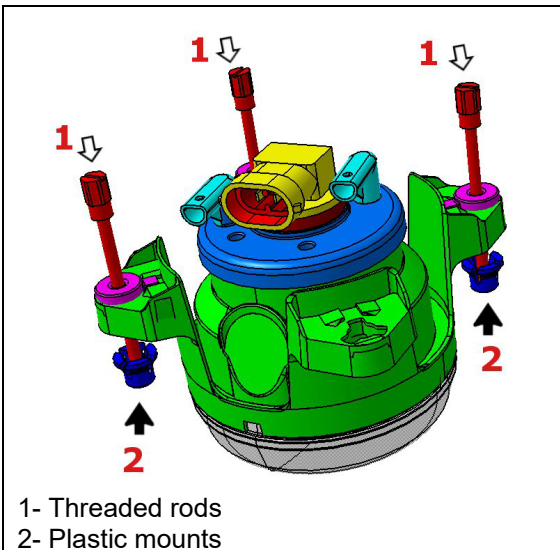
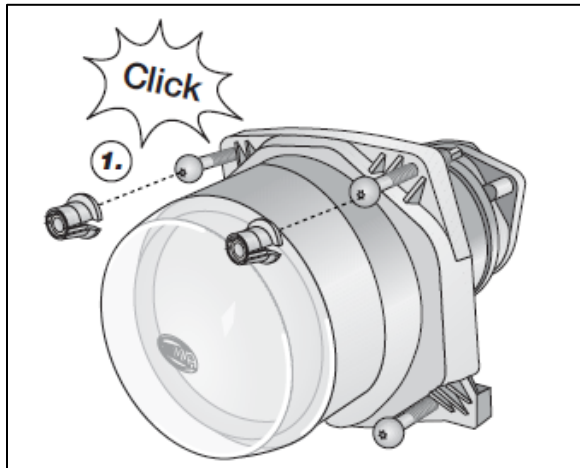

FIGURE 80: HEADLAMP MODULE
FIGURE 84
5. Install three new threaded rods (item 1, Figure 80) on the new headlamp module.
7. Snap new plastic mounts on threaded rods (3x) (item 2 in Figure 80 & Figure 84). You will hear or feel a click.